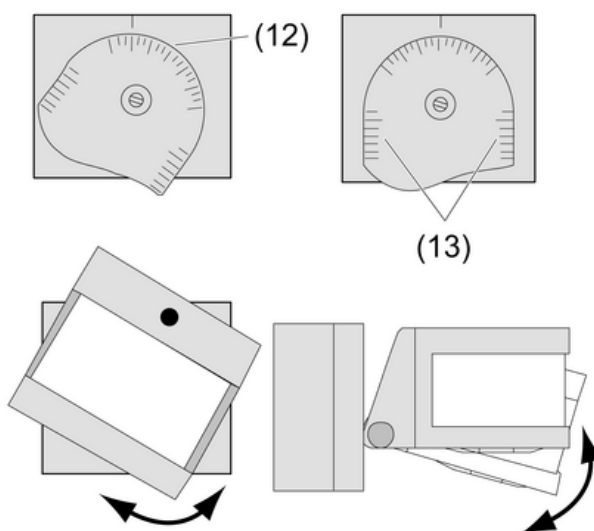

Figure 14: Turning and tilting the sensor head
- Adjust the detection area to the local conditions by turning (12) and tilting (13) the motion detector. The gradings on the motion detector housing mean that the settings can be reproduced at any time (Figure 14).